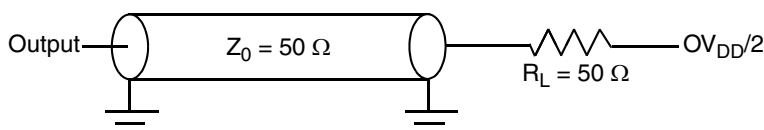

Figure 13. Alternate AC Test Load for the JTAG Interface
- All outputs are measured from the midpoint voltage of the falling/rising edge of TCLK to the midpoint of the signal in question. The output timings are measured at the pins. All output timings assume a purely resistive 50-Ω load (see Figure 13). Time-of-flight delays must be added for trace lengths, vias, and connectors in the system.
Figure 13 provides the AC test load for TDO and the boundary-scan outputs of the MPC7457.